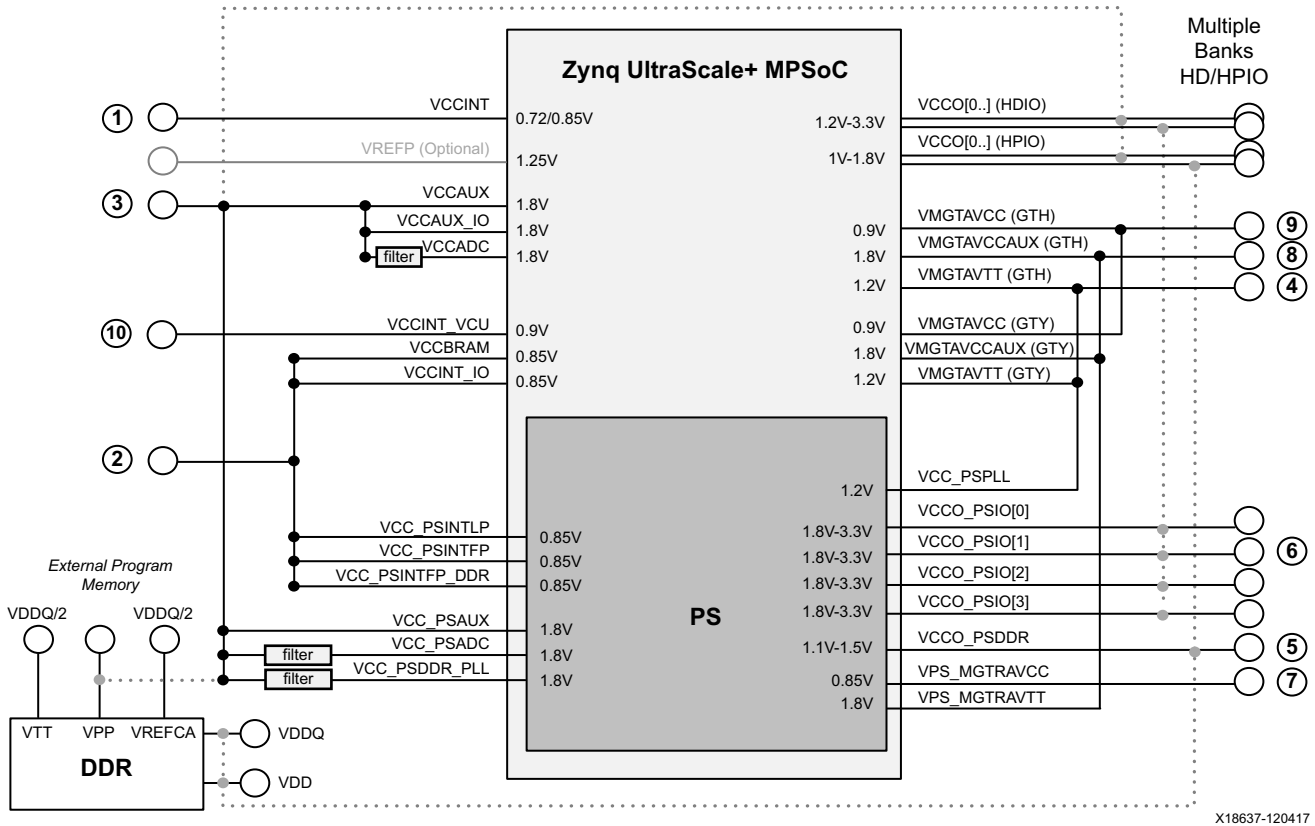

Figure 1-7: Always On: Power and/or Efficiency-Optimized Power Rail Consolidation for Low-Power Devices
Other than the need for an additional power regulator for VCCINT, the possible power rail consolidation is similar to the previous use case. Table 1-15 broadly defines what power rail consolidation is possible for this use case, assuming the decoupling and filtering requirements on the individual supplies as outlined in this document are met. For further clarity, Figure 1-7 shows the possible power rail consolidation graphically.
**Note:** In Figure 1-7, the dashed lines are dependent on the user configuration.